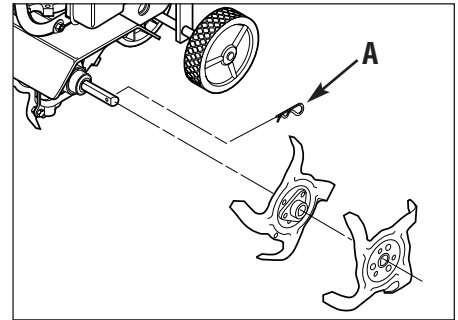

Figure 16: Remove hitch pin (A) to take off tines.
**IMPORTANT:** The hitch pin (A, Figure 16) is under spring tension – wear gloves to protect your fingers when removing or replacing the hitch pin.
2. Remove the hitch pin (A, Figure 16).
2. Remove the hitch pin (A, Figure 16) from both sides of the unit. Remove both outer tine sections. Mark each section as a left or right side tine and whether it is an inner or outer section.
2. Remove the hitch pin (A, Figure 16) from both sides of the unit. Remove the old tine sections and replace them with new tine sections. Refer to Figure 16 and the tine pattern shown in the *Parts List* for tine pattern details. Insert the hitch pins through the tine shafts.